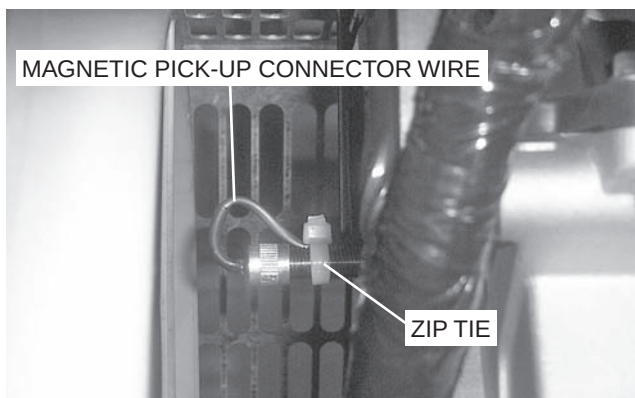

Figure 16
9. Tighten the lock nut on the cam sensor and zip tie the wire to the cam sensor (Figure 16).